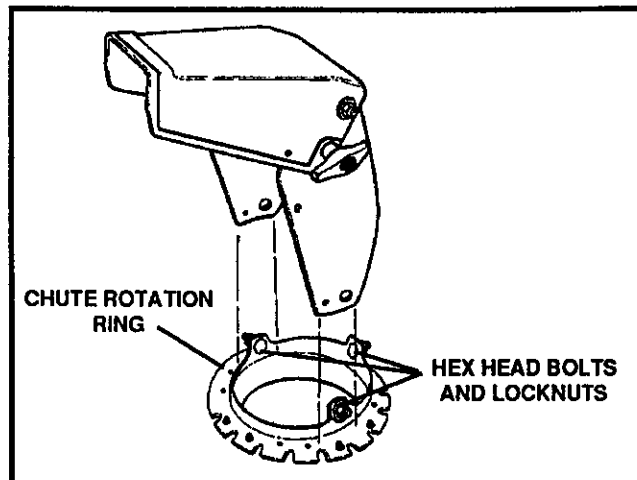

FIG. 3-ASSY
- Remove the three hex head bolts and locknuts from the chute rotation ring (See FIG. 3-ASSY).